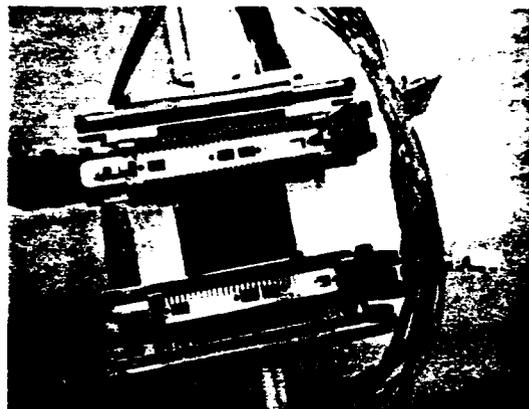

FIG. 31 RECEPTACLE/MANDREL (PAR. 4.322)
4.322 Remove both receptacle/mandrel assemblies from the tool and place them carefully to the right side of the tool See Fig. 31.